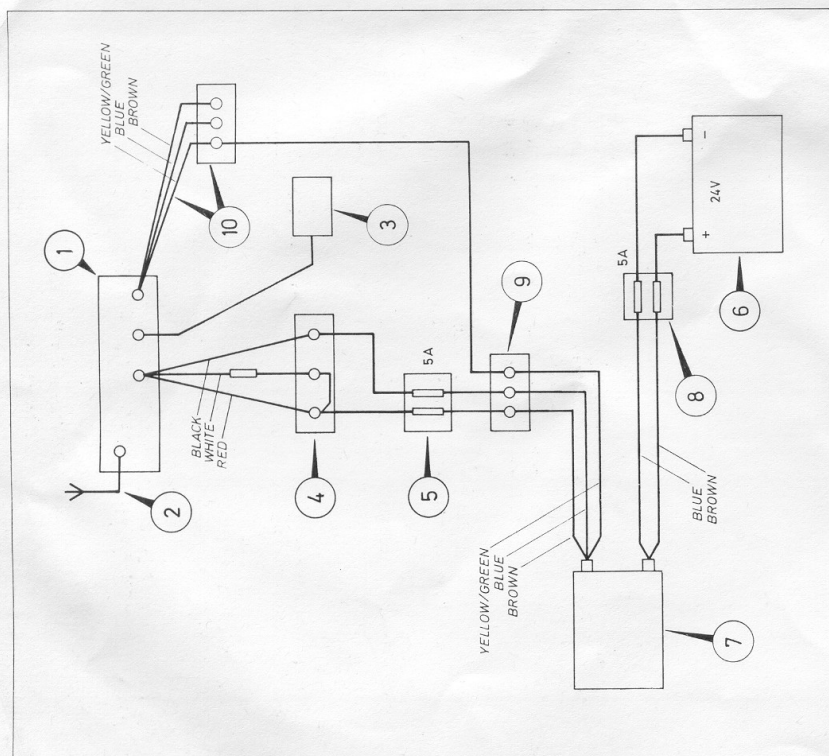

Fig. 2.1 Typical Installation
3. Cables (not supplied) used between battery and Fuseholder (8), radiotelephone connector block and Terminal Block (9), switching lead connections of Terminal Blocks (9) and (10), should be 2.5 mm (70/0070).
8. Refer to the Typical Installation Diagram, Figure 2.1, throughout this procedure.